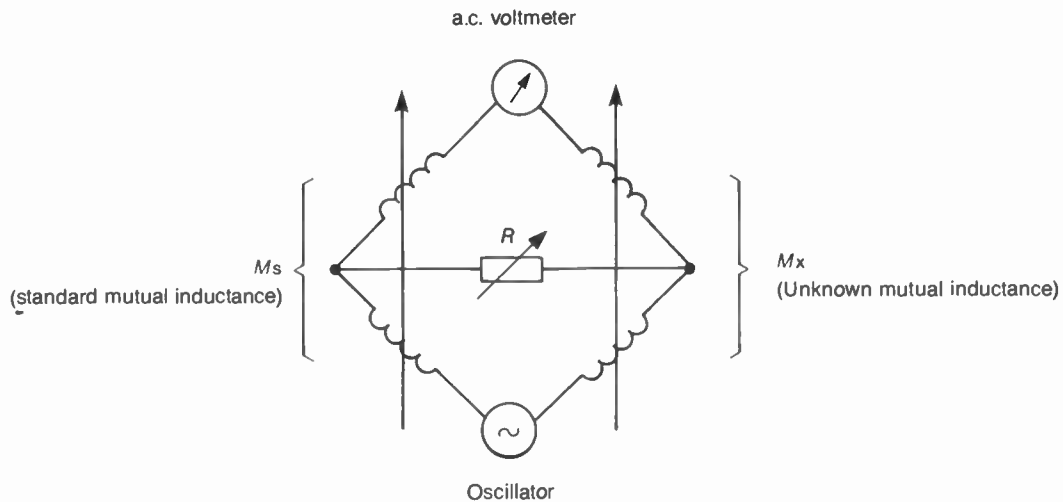

Fig. H2 Hartshorn Bridge
**HARTSHORN BRIDGE** is an alternating current (a.c.) bridge used for the measurement of mutual inductance. It is capable of greater accuracy compared with the Felici mutual inductance balance which is generally limited to the lower frequencies. The main problem is due to the self and mutual coil capacitances through which unwanted voltages are produced in the coils in addition to the desired voltages via the mutual inductance. The basic circuit is shown in Figure H2 in which the resistor  $R$  balances these unwanted components out. Zero indication on the a.c. voltmeter is therefore obtained by adjustment of the standard mutual inductance in conjunction with resistor  $R$ . For zero reading,  $M_x = M_s$ .